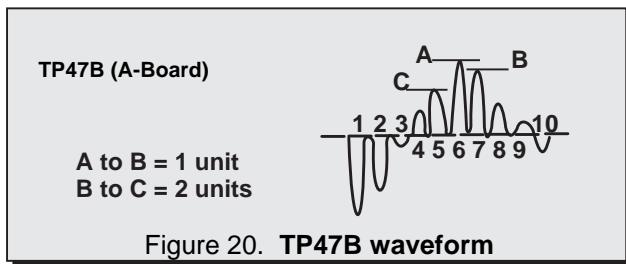

Figure 20. TP47B waveform
1. In the Service Mode for making electronic adjustments, select DAC Sub-Tint Adjustment (B1). Adjust until the waveform measured is as the one shown in Fig. 20.